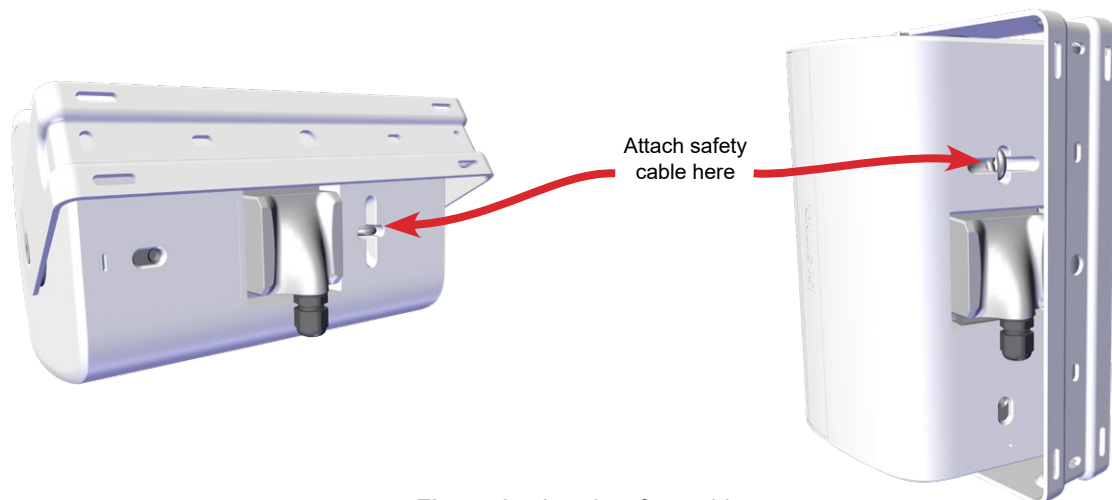

Figure 14. Attach safety cable
12. Secure the loudspeaker with a safety cable attached to the loop on the rear (Figure 14). The cable should be mounted to a secondary structural mounting point close to the U-Bracket to avoid any kinetic force if the mount should fail.